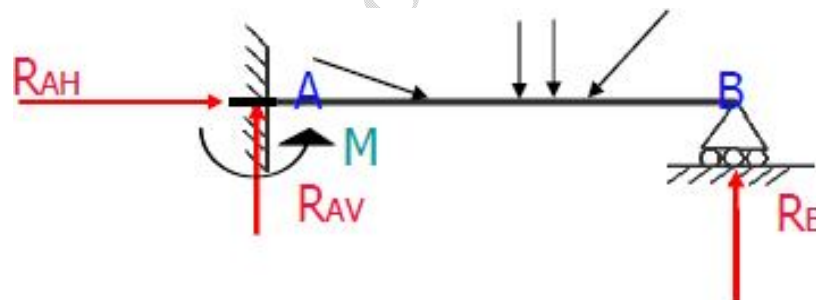

Fig 3.8 Propped cantilever beam
4. **Propped cantilever:** It is a beam which has a fixed support at one end and a simple support at the other end as shown in Fig 3.8.